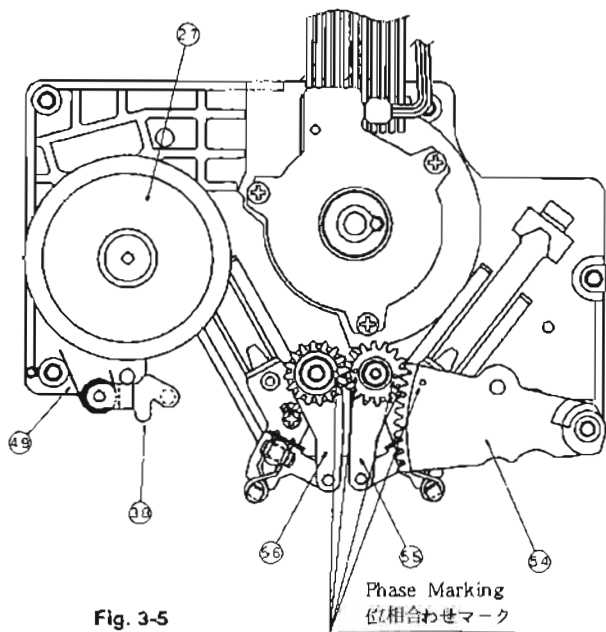

Fig. 3-5
- 1) ③c ワッシャを外し、⑮⑦ Loading Lever Blockを外す。
- See that the phases of the Gear Arm, L1 (IN) Arm, and L1 (OUT) Arm are matched with each other, as shown in Fig. 3-5.
- Gear Arm, L1 (IN) Arm, L1 (OUT) Armの位相はFig. 3-5を参照。